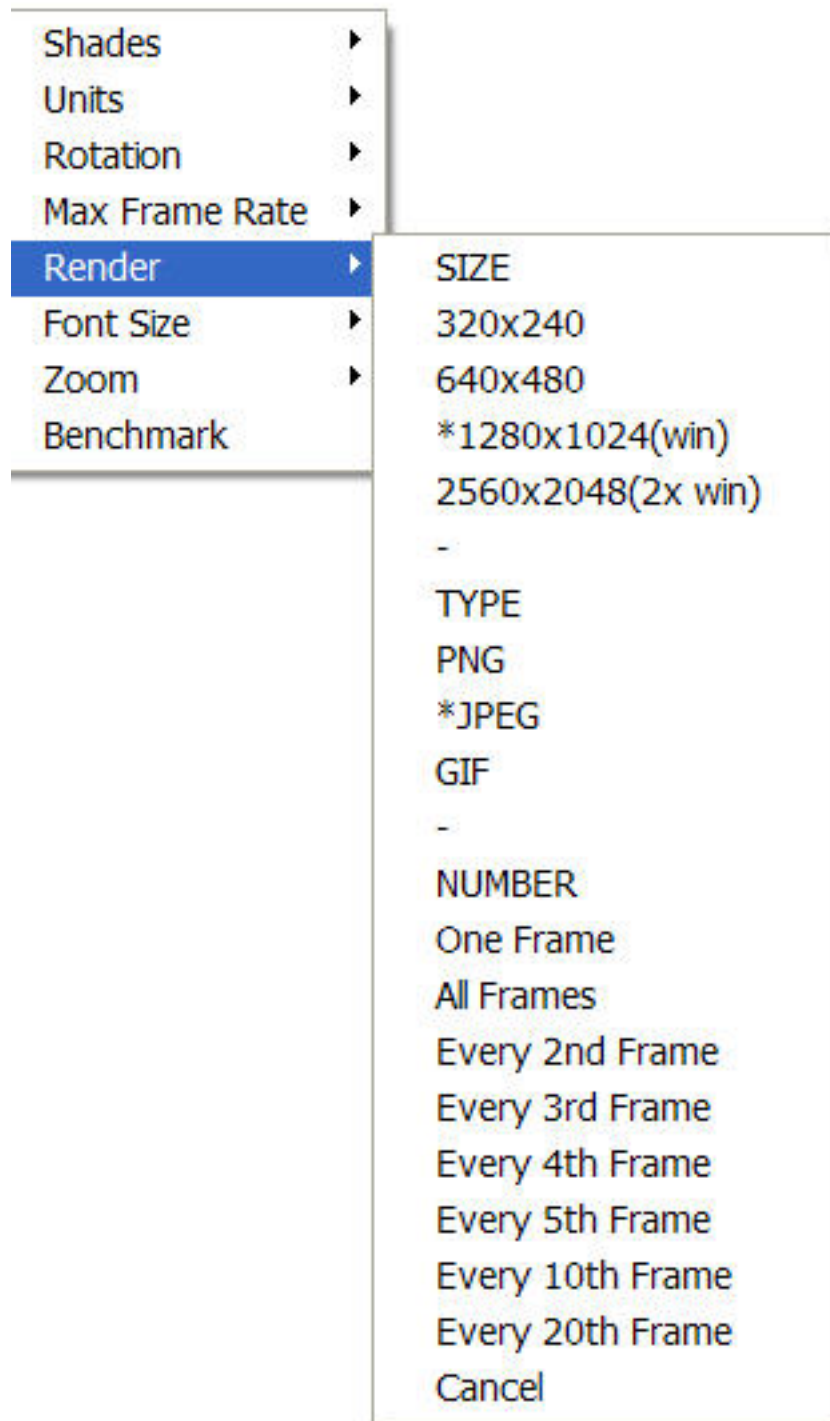

Figure B.7: Render Menu.
The `Render` menu, illustrated in Figure B.7, allows one to create PNG or JPEG image files of the currently displayed scene. The graphics library, GD 2.0.15, was used to create the rendered versions. GD 1.0 is documented in reference [12, Appendix 4]. GD 2.0.7 now creates images using *full color* allowing for more realistic scene representations eliminating the color banding that occurred with the previous version because of the limited number (256) of colors used to represent images. Due to patent disputes, GD 2.0.15 has dropped support for the GIF file format and uses JPEG or PNG instead.